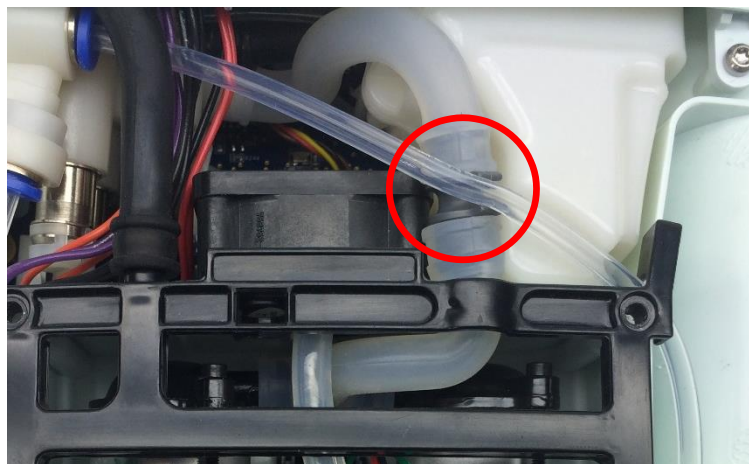

Figure 7: Column tubing and inlet union
3. Unclip the column tubing from the inlet union (Figure 7).
3. Clip the column tube back into the inlet union (as shown in Figure 7).